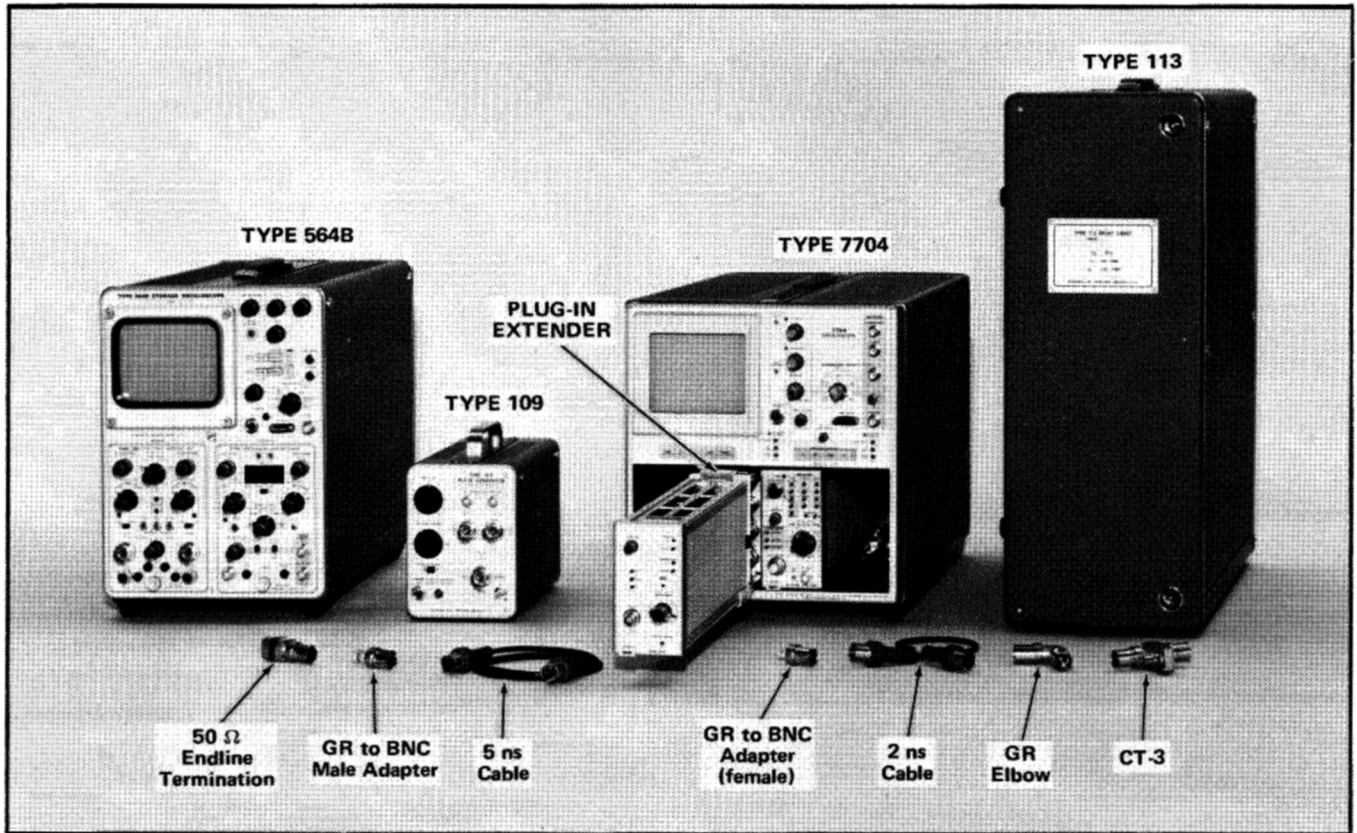

Fig. 5-4. Test equipment required for steps 18 and 20.
- a. Test equipment required is shown in Fig. 5-4.